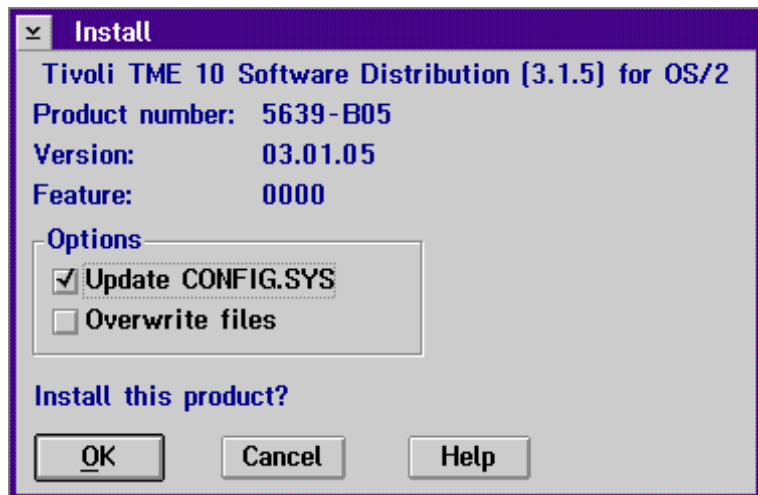

Figure 9. TME 10 Software Distribution install window
- 2 Select **Continue**. The Install window, shown in Figure 9, is displayed.